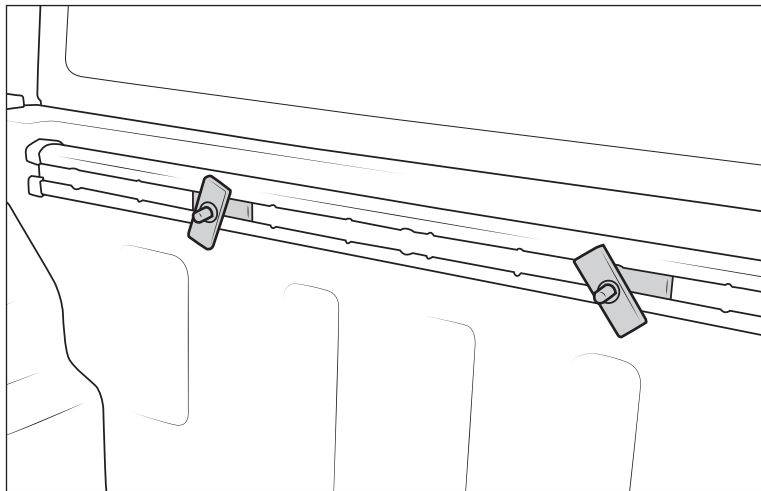

Figure 9
10. Place the Spacers and Tire Carrier into position on the two bed floor bolts and two bulkhead bolts (fig. 9). Install M10 nuts on all four bolts.
3. Slide backer plate assemblies into the track then install a second backer plate and retaining washer on each bolt (fig. 9).